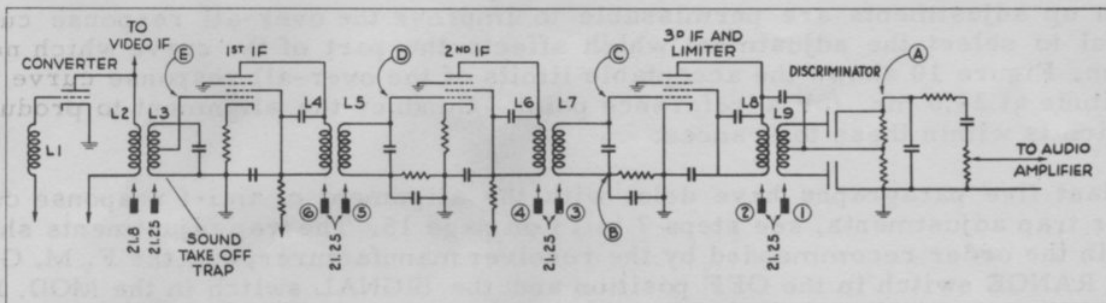
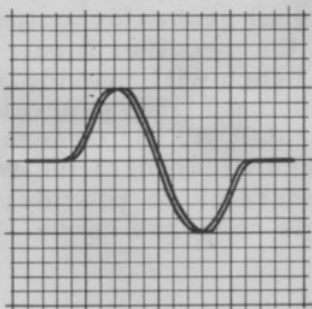
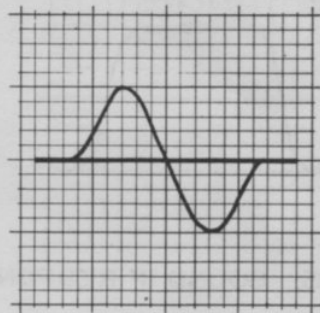
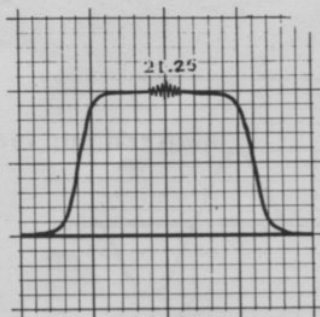

FIG. 11. TYPICAL TV SOUND I-F SYSTEM
FIG. 12. DISCRIMINATOR RESPONSE — IN PHASE — BLANKING OFF
FIG. 13. DISCRIMINATOR RESPONSE — BLANKING ADJUSTED
FIG. 15. SOUND IF RESPONSE
Figure 11 is the schematic diagram of a typical sound i-f system composed of three i-f amplifier stages and a discriminator. The third i-f stage acts as a limiter to reduce the effects of amplitude modulations.
1. Connect the GENESCOPE OUTPUT cable between point "C" of figure 11 and ground. Use a 75 ohm, 300 ohm, or open termination as desired. See table 2 for data on the termination connections. Use the series condenser (do not jumper terminals 1 and 6).
2. Connect the VERTICAL INPUT cable between point "A" of figure 11 and ground.
5. Advance VERTICAL GAIN until the pattern is about one inch high. The pattern will be two S-shaped response curves. Adjust the PHASING control to bring the curves in phase as shown in figure 12.
6. Adjust F.M. SWEEP so the response curve covers most of the horizontal trace as shown in figure 12. Readjust the PHASING if the traces are not superimposed. If the response curve is not centered on the trace, reset the CENTER FREQUENCY pointer to center the pattern. Advance the BLANKING control to produce a pattern as shown in figure 13; a single curve with a base line through it.
10. Adjust the discriminator secondary (L9 in figure 11) until the 400 cycle pattern disappears and then reappears if the adjustment is continued in the same direction. Be sure to make this adjustment to the exact null point with the SIGNAL ATTENUATORS set low to avoid a broad response due to a high signal amplitude.
11. Adjust the discriminator primary (L8 in figure 11) until a maximum amplitude symmetrical pattern is achieved as shown in figure 13. Reduce the F.M. ATTENUATORS as the amplitude of the curve increases. Recheck the secondary adjustment if the 400 cycle pattern re-appears.
12. Move the OUTPUT cable to the grid of the next preceding stage (point D in figure 11).
13. Move the VERTICAL INPUT to the grid of the limiter (point C in figure 11).
14. Turn the SIGNAL switch to UNMOD. R.F. and adjust the F.M. and SIGNAL ATTENUATORS to obtain an i-f response curve similar to figure 15. The curve may be distorted until the next adjustment has been made.
15. Adjust L7 and L6 of figure 11 for a symmetrical response of maximum height similar to figure 15. The marker should appear at the center. Keep the F. M. ATTENUATORS set as low as possible to avoid overloading and keep the SIGNAL ATTENUATORS low to avoid distortion of the response curve at the marker point.
16. Connect the OUTPUT cable to the grid of the next preceding stage (point E of figure 11). Adjust L5 and L4 for a symmetrical response curve of maximum height as in step 15 above.
1. Connect the VERTICAL INPUT cable across the output of the demodulator stage (point "A" in figure 11).